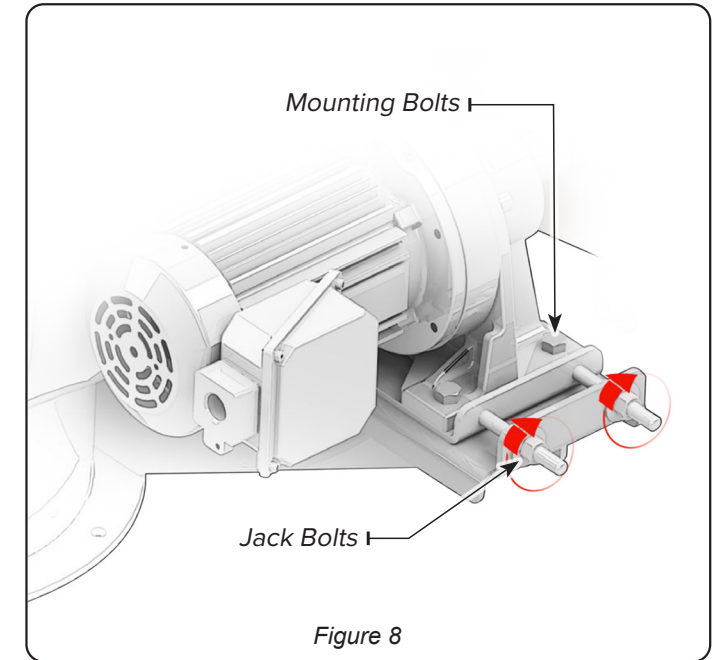

Figure 8
- 6. Tighten the drive chain by turning the jack bolts clockwise (see Figure 8).